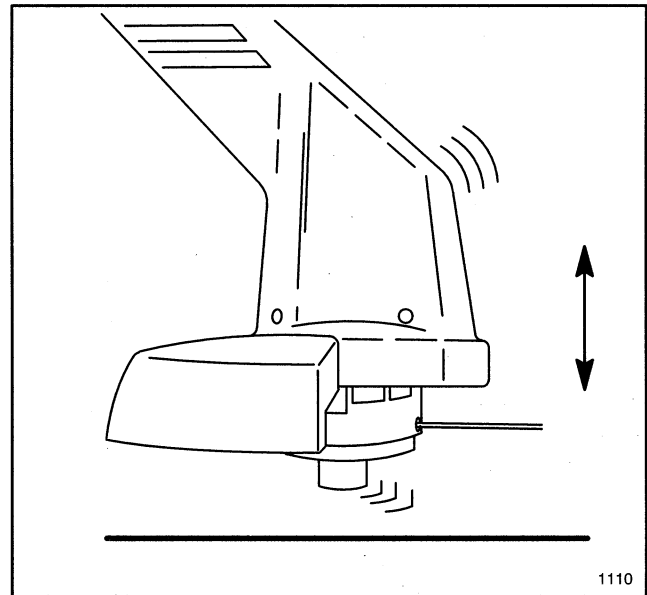

Figure 18
1. To lengthen line, firmly tap spool on the ground while the motor continues to run. The line will be fed from the spool and cut off to the proper length by the cutting knife attached to the shield (Fig. 18).